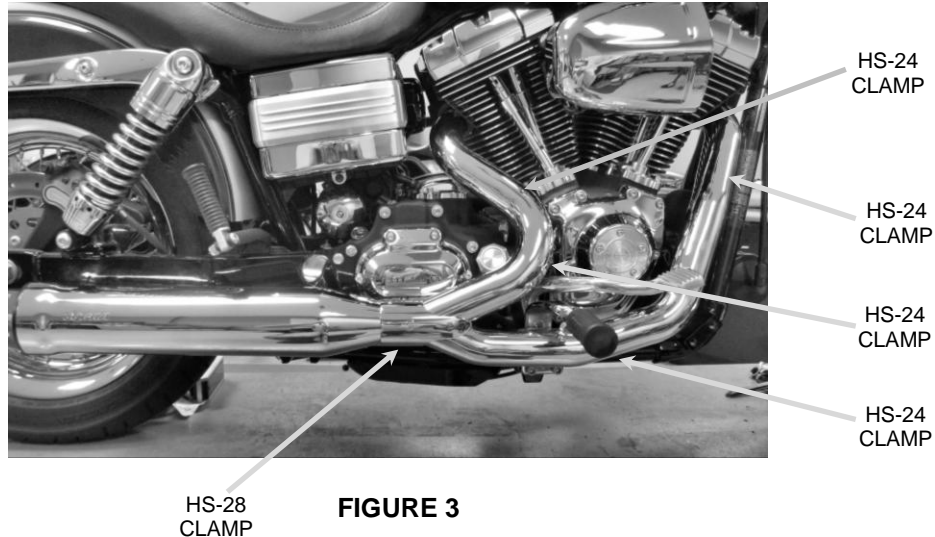

**FIGURE 3**
9. Position the supplied #27-61 MSC muffler clamps with hex head facing the direction shown in **FIGURE 3** over the inlets of the muffler.
12. Secure the muffler assembly to the exhaust mount bracket using the (2) supplied 5/16"-18 bolts but **DO NOT TIGHTEN**.
13. Make sure the muffler assembly, front headpipe, and rear headpipe are straight and parallel and tighten in the following order; headpipe flanges to the cylinders (slowly tightening opposing nuts), muffler assembly to the exhaust mount and finally the muffler clamps. (NOTE: The muffler clamps should be flush with the end of the muffler inlets when tightened. See **FIGURE 3**. If the muffler clamps are slid past the slots on the muffler inlets the clamps will not tighten properly).
17. Install the front heatshield first. (NOTE: Spread the hose clamps apart slightly to make it easier to slide them over the muffler assembly and headpipes.) Adjust the heatshield as far back as possible on the headpipe so that it will align properly with the bikini heatshield. Make sure the clamp on the muffler inlet does not interfere with the heatshield and is aligned as shown in **FIGURE 3**. Snug the heatshield clamps but do not tighten.